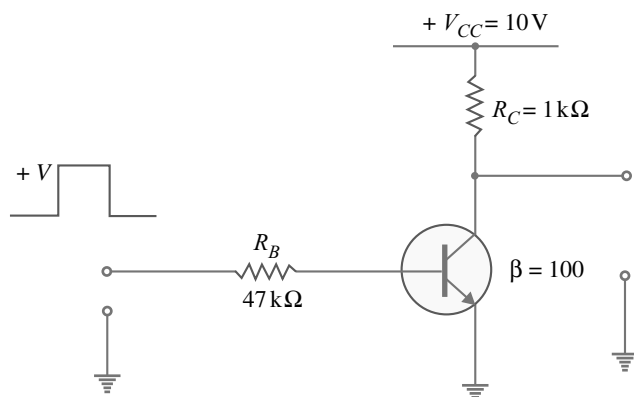

Fig. 16.7
**Example 16.1.** Determine the minimum high input voltage ( $+V$ ) required to saturate the transistor switch shown in Fig. 16.7.